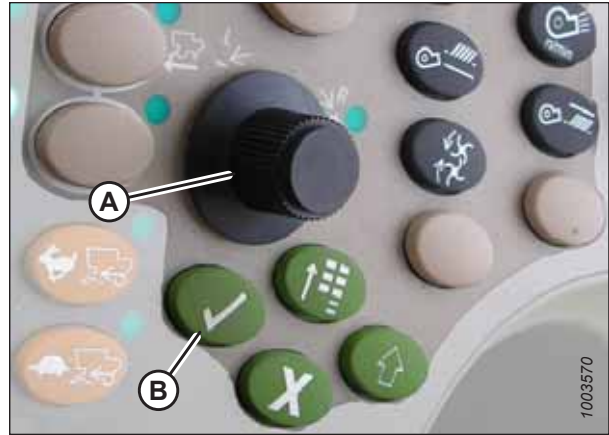

Figure 3.645: John Deere Combine Control Console
8. Select HEADER in box (A) by scrolling down to the box using the scroll knob, and then pressing the check mark button (knob and button are shown in Figure 3.645, page 370).
9. Scroll down to the lower right icon that resembles an arrow in a diamond (B) and press the check mark button to select it.